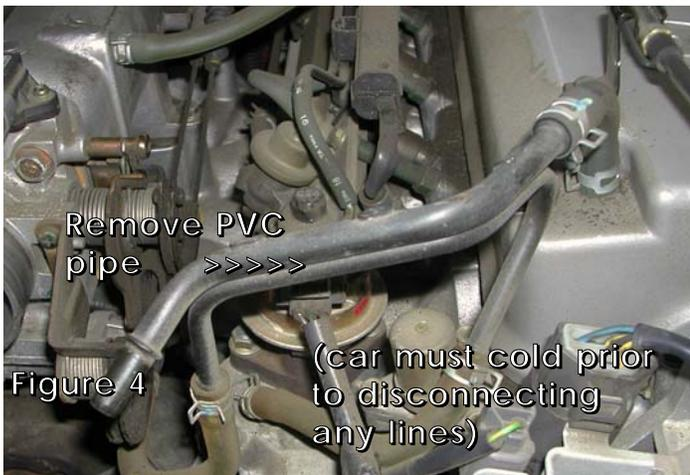

Figure 4
- 3 Remove the PCV pipe as seen in figure 4 or diagram A or B. Use the 12"-6mm hose to replace the coolant line that goes from the intake manifold to the thermostat housing. The location of your coolant line port may vary depending on the year of your car.